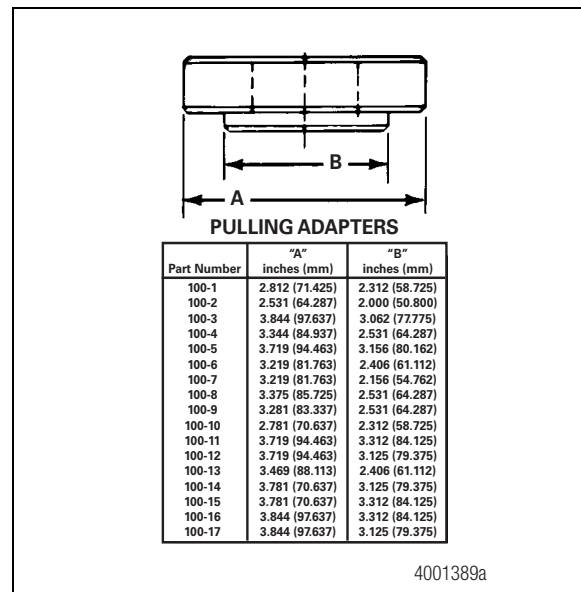

Figure 3.18
- Two pulling adapters: Measure dimension "A" and "B" on the axle tube. The adapter outer diameter must be slightly smaller than the tube outer diameter. Figure 3.18.